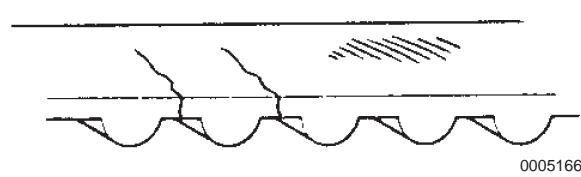

Figure 5-168
- If the belt face is cracked or worn, check the idler pulley for damage and sharp edges (**Figure 5-168**).